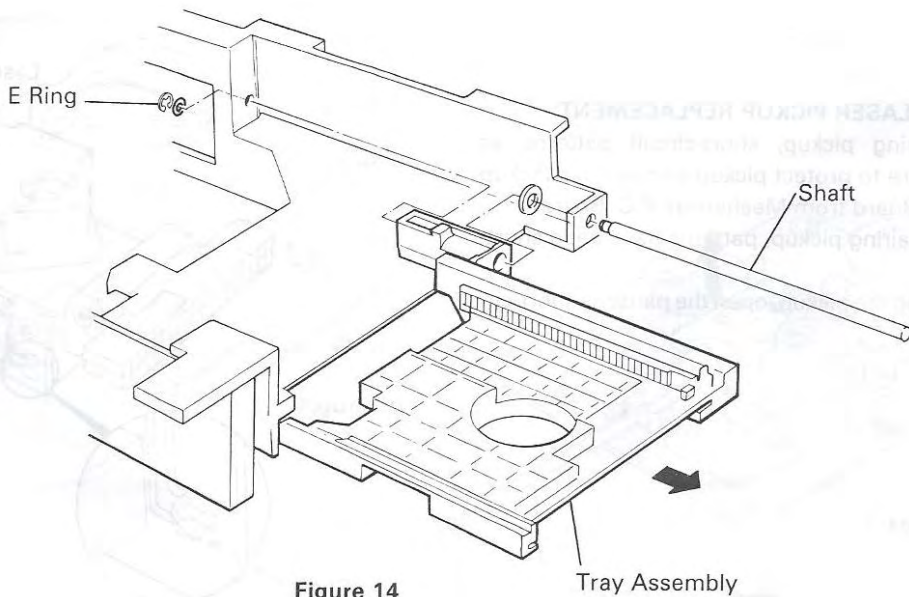

Figure 14
1. Remove E ring from shaft, pull out the shaft and pull Tray Assembly to the arrow direction, the Tray Assembly will be removed. (Figure 14)